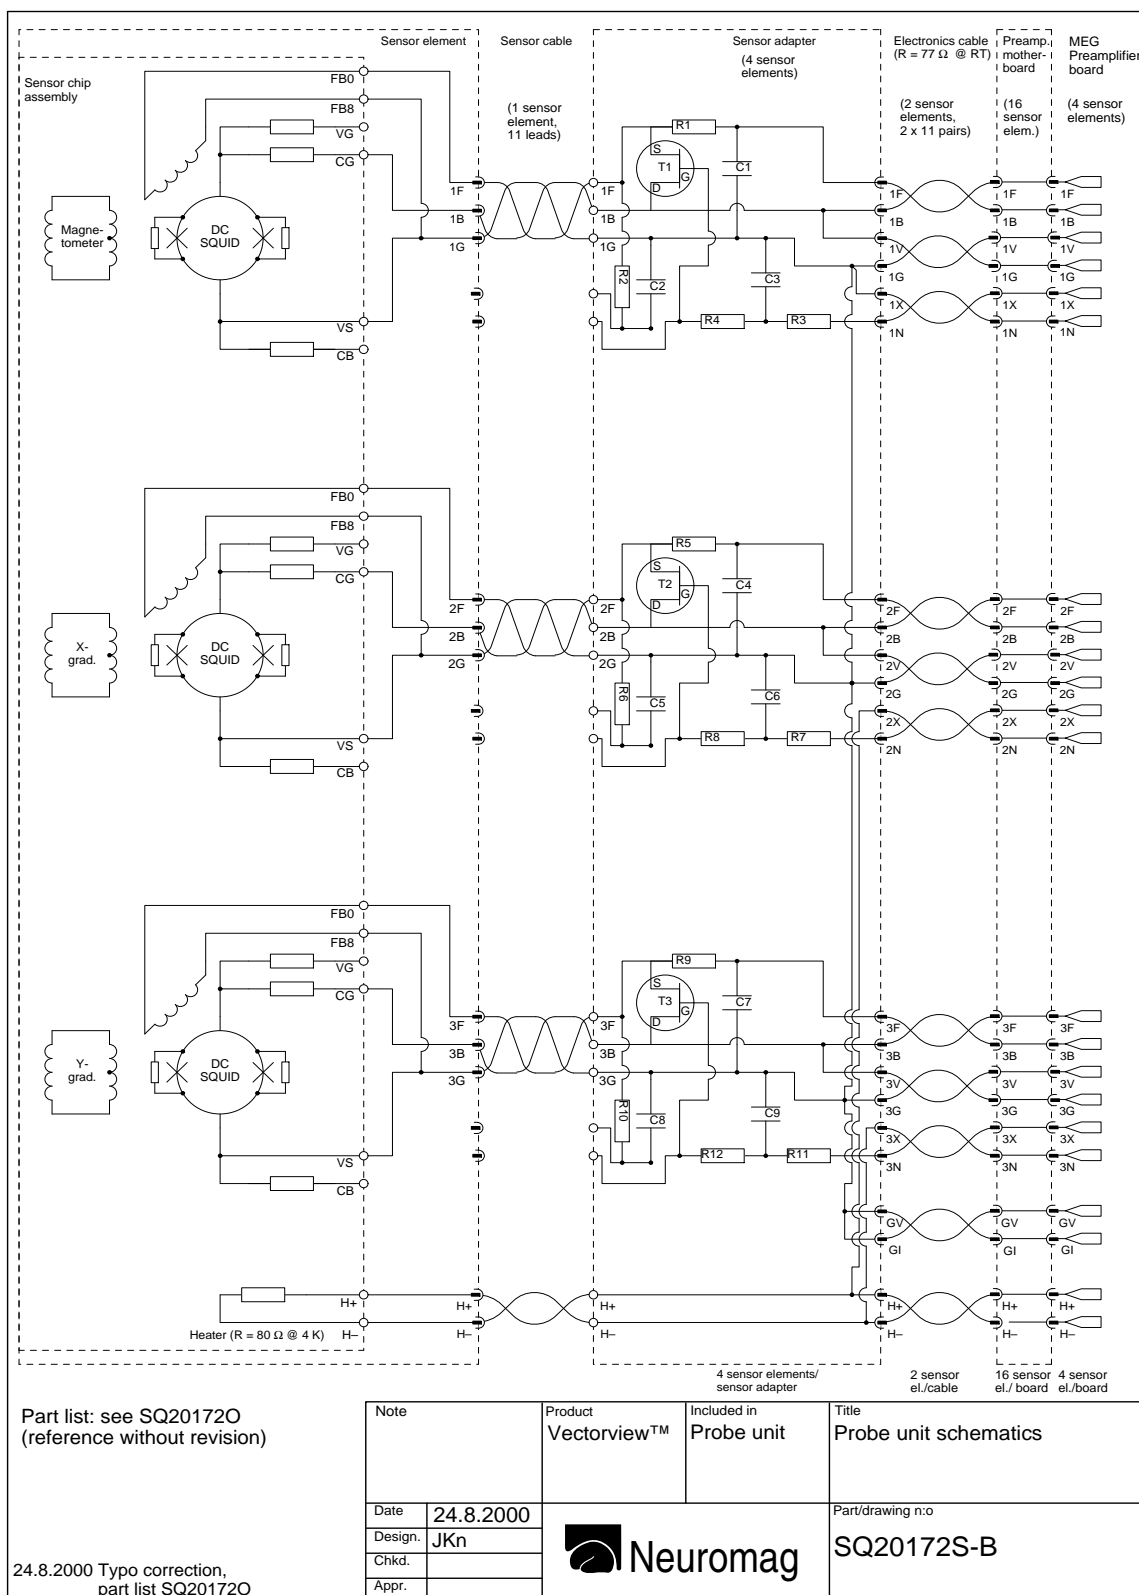
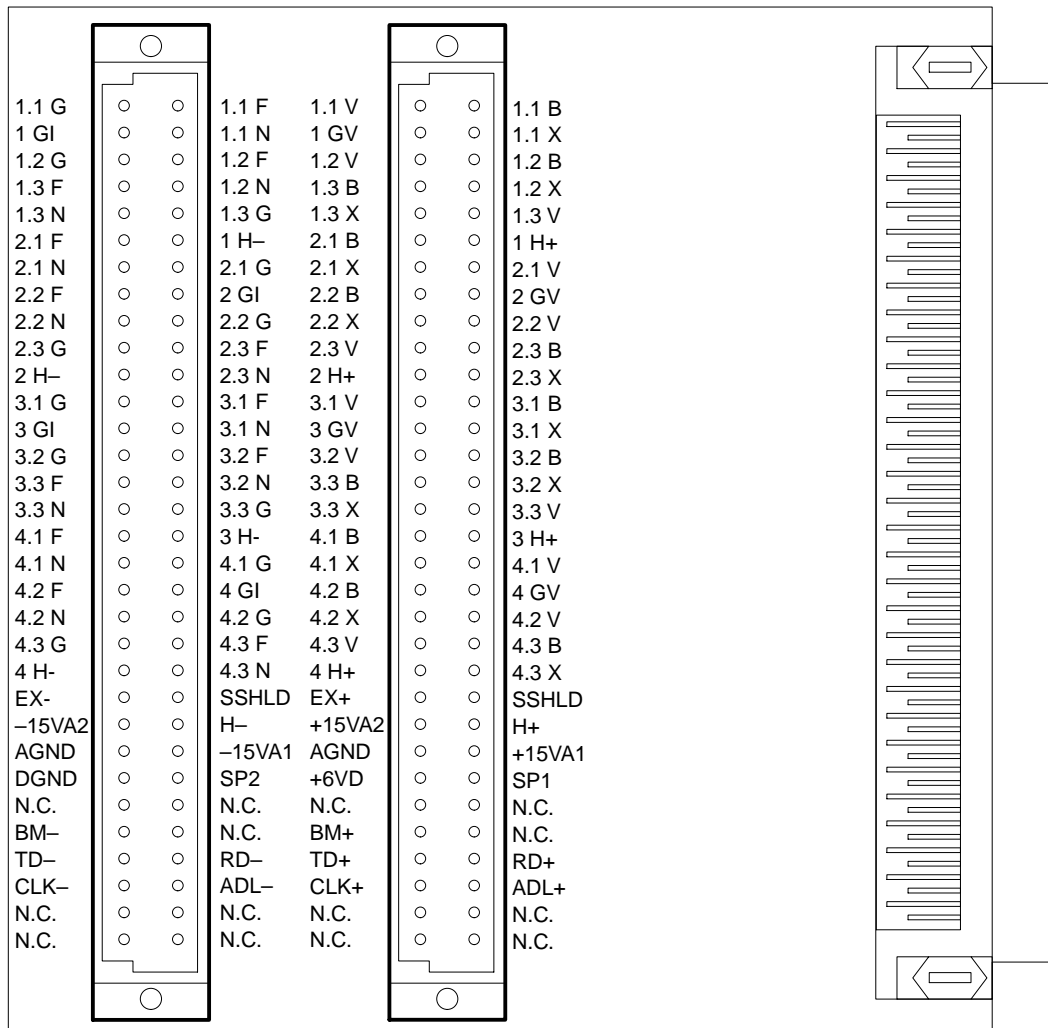

Figure 7.5 Equivalent circuit for the insert
Figure 7.6 Pinout of the test adapter
To find out the equivalent circuit for the insert SQUID channels, see Figure 7.5 Equivalent circuit for the insert. Note that the extra conductor (X) is used for doubling the heater wiring in channels 2 and 3, and in magnetometer channel 1 the X wire is connected to ground.
The wiring tester is designed for measuring only one channel at a time, and normally this is sufficient. If inter-channel cross-talk is suspected, readings must be taken directly from the test adapter Euro-64 connectors. See Figure 7.6 Pinout of the test adapter. Note that the channels in the same sensor element XXY1-XXY3 share a common ground; thus there are a lot of apparent interconnections between the channels. See Figure 7.5 Equivalent circuit for the insert. However there should be no interconnections between channels in *different* sensor elements.